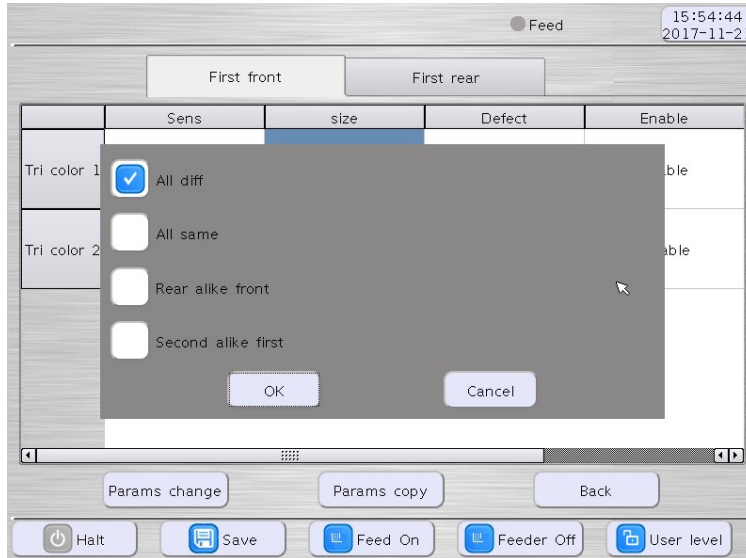

Figure 12-7
- 8) By clicking “Params Copy” button as shown in Figure 12-7 when you set the parameters for ‘Tri color 1” and “Tri color 2”, you can elect to have the sorting parameters for front and real cameras the same or different. Note this setting will be imposed to all the sorting functions such as “Grey A”, ‘Grey B”, “Discolor A”, “Discolor B”, “expand 1” to “expand 4”, “Tri color 1” and “Tri color 2”.